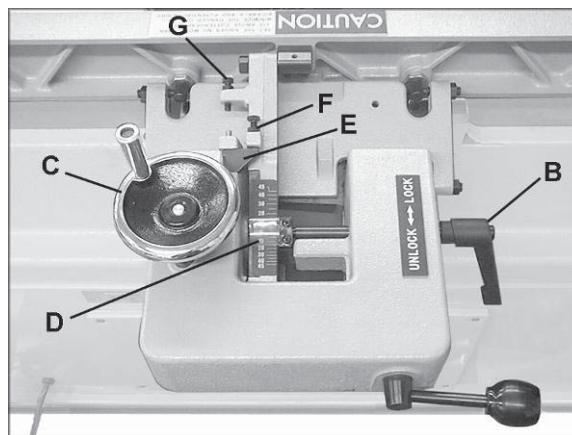
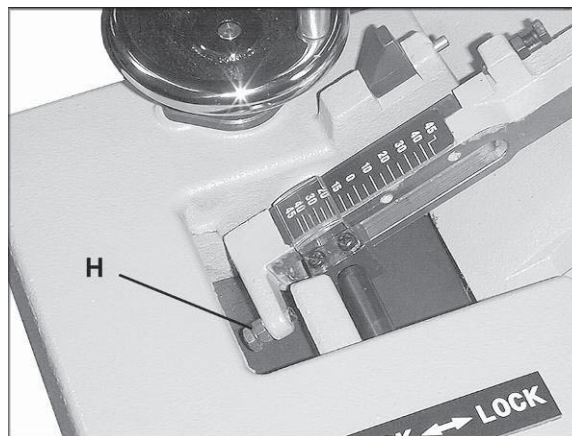

Figure 16
Figure 17
1. Loosen locking handle (B, Figure 16).
2. Flip the 90° stop block (E, Figure 16) out of the way.
3. Rotate handwheel (C, Figure 16) until the desired angle is indicated on the scale (D, Figure 16). Or you can place your beveled workpiece on the table and against the fence, and rotate the handwheel (C, Figure 16) until the angle of the fence matches the bevel of your workpiece.
4. Tighten locking handle (B, Figure 16).
IMPORTANT: When the tilted operation is finished and the fence is returned to 90°, do not forget to flip the 90° stop block (F, Figure 16) back to its original position.
1. The 90° stop is controlled by the screw (F, Figure 16) and the stop block (E, Figure 16).
2. Loosen the locking handle (B, Figure 16) and loosen the hex nut on the screw (F, Figure 16).
4. Move the fence until it fits flush against the angle measuring device. Turn the screw (F, Figure 16) until the screw contacts the stop block (E, Figure 16).
5. Tighten the hex nut on the screw (F, Figure 16) and the lock handle (B, Figure 16).
1. The 45° forward stop is controlled by the screw (H, Figure 17).
2. Loosen the locking handle (B, Figure 16) and loosen the hex nut on the screw (H, Figure 17).
4. Rotate the screw (H, Figure 17) until it contacts the casting in front of it.
5. Tighten the hex nut on the screw (H, Figure 17) and tighten locking handle (B, Figure 16).